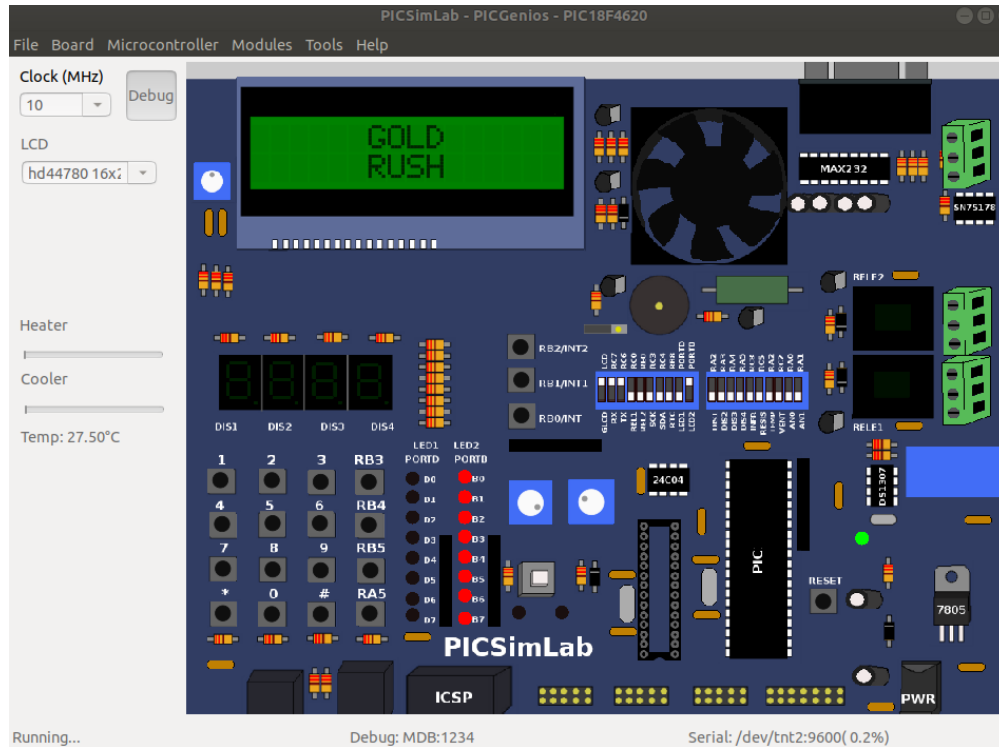

Figure 4: Board Settings for the assignment.
- Make sure the dip switches for connecting LCD to PORTE/D and RX/TX pins of the serial port to RC6/7 are on ( Figure 4 ).